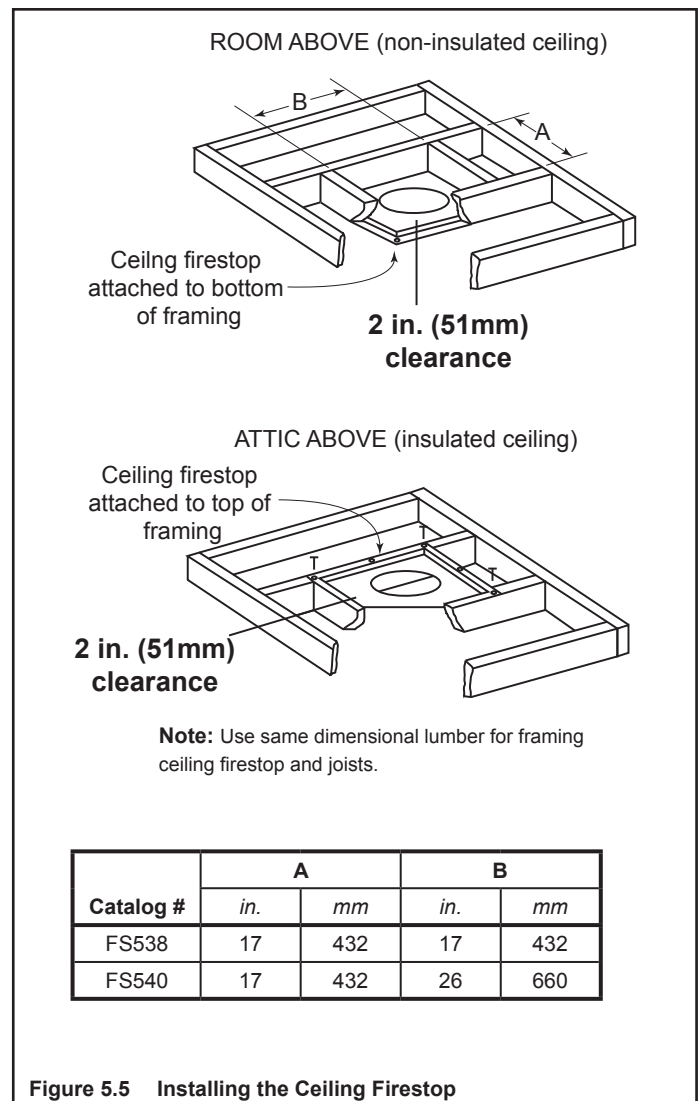

Figure 5.5 Installing the Ceiling Firestop
- Mark and cut an opening in ceiling as shown in Figure 5.5.
- Refer to Figures 5.5, 5.6, 5.7.